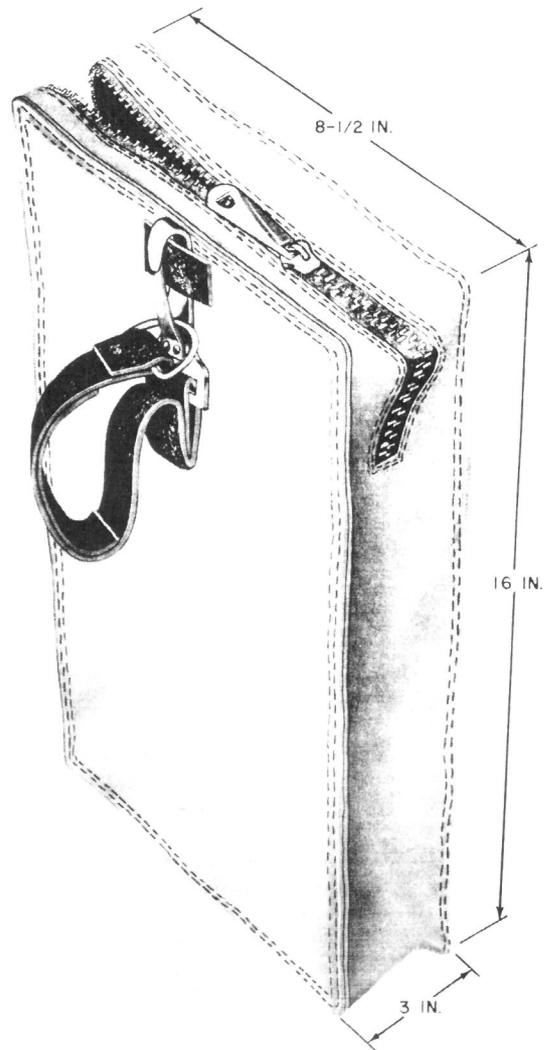

Fig. 4—B Glove Bag
6.01 The B glove bag (Fig. 4) is provided for carrying and storing insulating gloves and associated leather protector and fabric liner gloves.